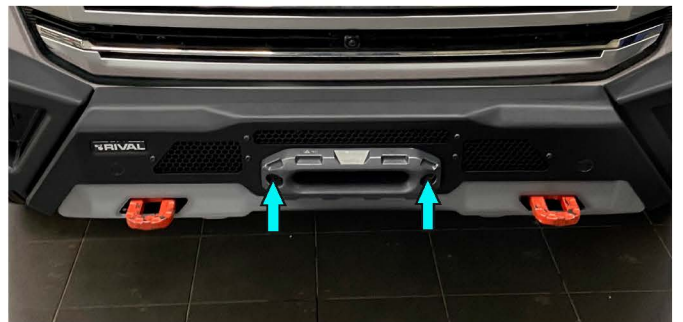

Fig.52
52. Install the fairlead on the bumper, in case if you installed the winch, fasteners supplied with fairlead. (fig. 52). ***Do not tighten yet.**